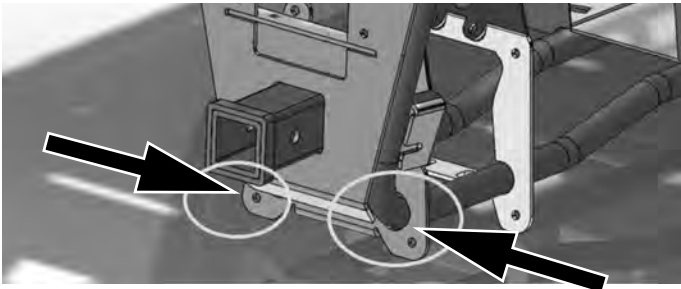

figure 4.17
When trailering the unit, use tie down points close to the wheel ends to ensure the straps remain tight during transit. Ref figs: 4.17 & 4.18 for front tie points "A" and rear tie points "B".
1. Use (4) ratcheting straps with the appropriate load rating for your vehicle.
2. Tie down unit at front across chassis as shown in fig 4.17